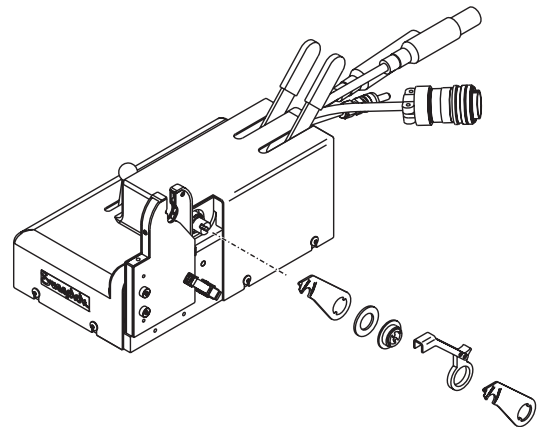

Figure 37 *Installing the Movable Clamp Assembly*
8. Reinstall the thrust bearing and adapter hub on the shaft. Align them with the notched shaft. See Figure 37.